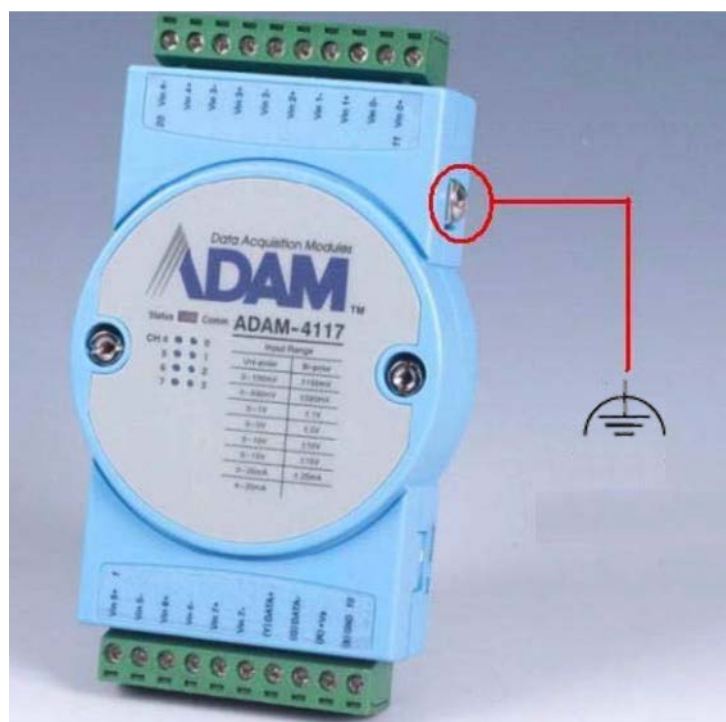

Figure 2.3 Ground Connector on an ADAM-4117
2. Power the ADAM module on while turning the switch to "initial" (see Figure 2-3).